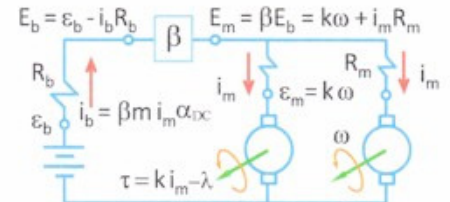

Figure 14. DC-DC converter Circuit.
Earlier herein we optimized the system at full power. Now, we apply DC-DC conversion to “buck” motor terminal voltage at cruise, or to “boost” battery terminal voltage above its EMF for regen. In Figure 14, the DC-DC converter has a boost or buck voltage ratio $\beta \equiv E_m / E_b$. Our aim, given *full-power* optimal (k, ϵ_b), together with *cruise* or *regen* torque (τ) and speed (ω), is to determine the required (β) for cruise or regen. We first define (α_{DC}) as equal to converter efficiency (η_{DC}) for regen, or ($1/\eta_{DC}$) to motor. Eqs (4) then solve the quadratic equation representing the system which, in the example of Figure 15, consistently exhibits “good” system efficiency, per the objective of this paper.